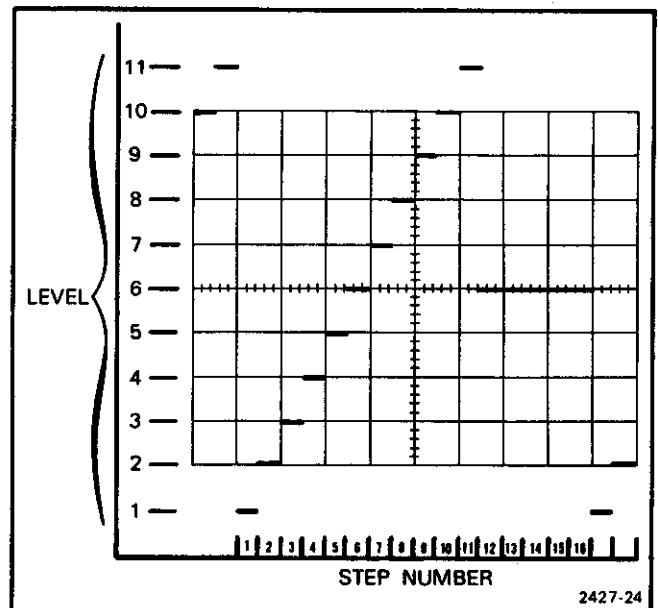

Figure 5-1. Staircase waveform.
3. Attach test clip (item 17) to U121.
- a. Actuate the switch repeatedly until the output reaches level six. With the Signal Standardizer's POSITION control centered, level six has a zero-volt level and a duration of five input pulses from intervals (steps) 12 through 16. See Figure 5-1.